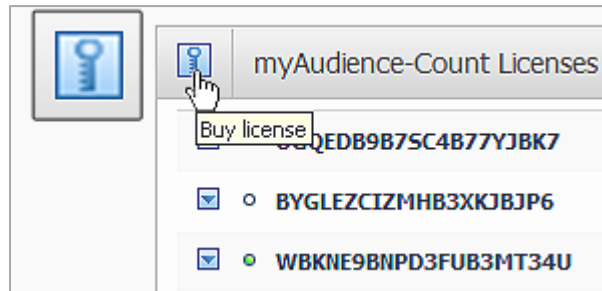

Figure 86: "Purchase a license" button.
- or access Reports Portal and press the "Purchase a new license" button in the list header of Licenses tab at <http://portal.myaudience.com/licenses.php> (Figure 86)